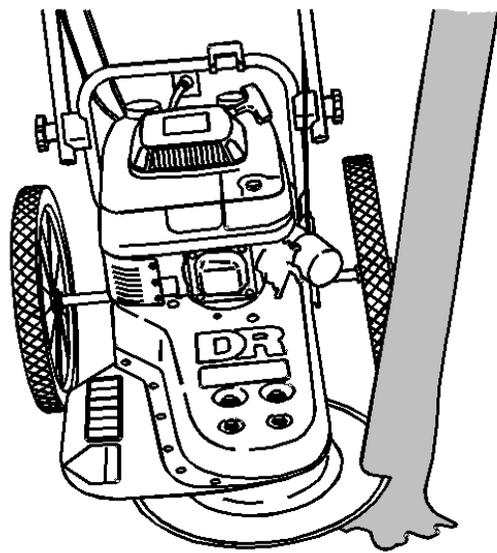

Figure 2
3. Engage the trimmer head and EASE the blade into the brush or saplings you wish to cut. Use the side of the blade to cut instead of heading straight into the trunk (**Figure 2**). DO NOT ram the blade into what you are cutting. Ramming could damage the blade and cause injury. When cutting small trees that cannot be cut in one bite, pull the blade back and cut again from the opposite side. (See paragraph Felling of Trees)